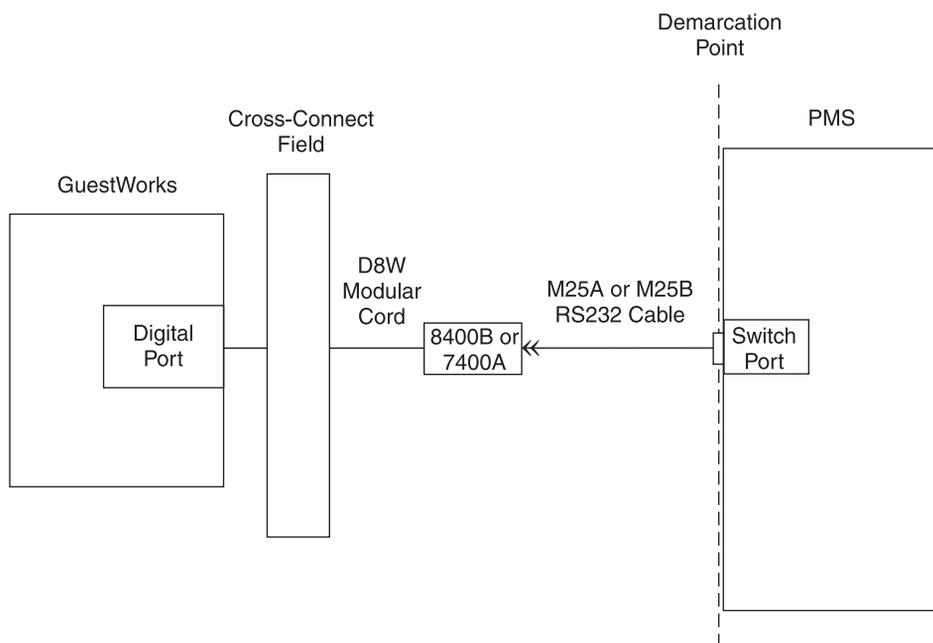

Figure 13. Switch-to-PMS Link
Figure 13 shows the connection between the switch and the PMS.
5. Reconnect the unit as shown in Figure 13.
Using the RS232 Mini-Tester (see the Note on Page 11), check the status of the link at the 8400B or 7400A as shown in Figure 13 before you connect to the PMS. The leads marked with an asterisk are controlled by the switch, and the PMS controls the other leads. Translations for this connection begin on Page 183.